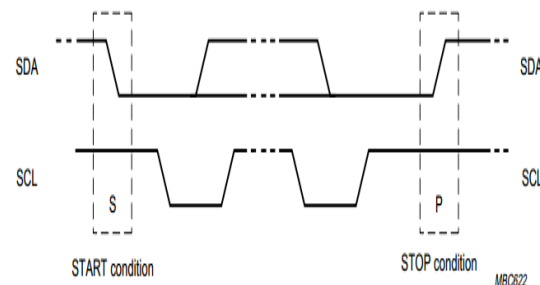

Fig.3 Connection of Standard-mode and Fast-mode devices to the I2C Bus
Within the procedure of the I2C Bus, unique situations arise which are defined as START (S) and STOP (P) conditions (see Fig.3)